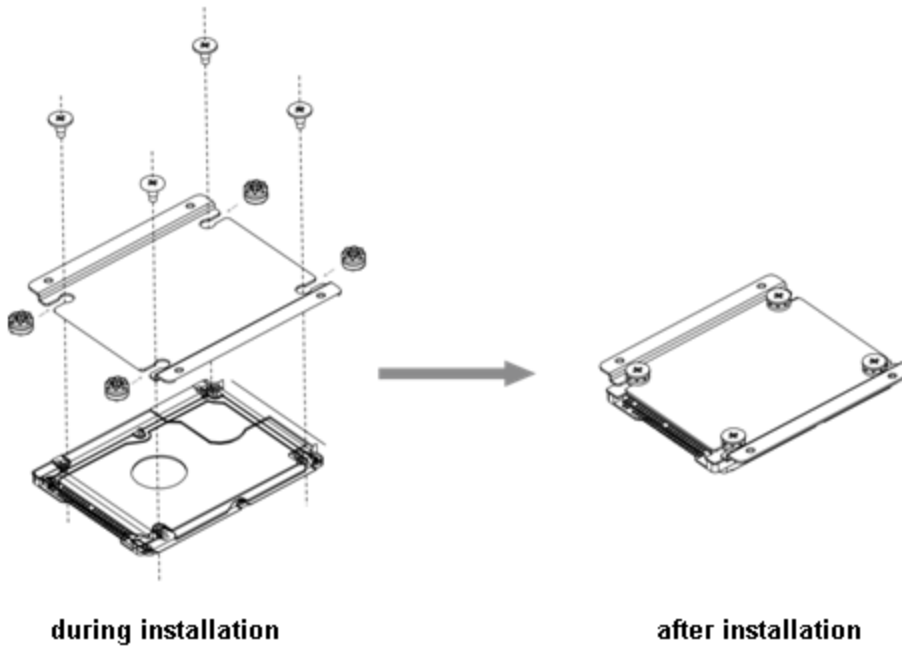

Figure 2-12
Step 2. Place anti-knock ring into the four slots of HDD bracket, and HDD screw hole faces hole on bracket, fasten anti-knock ring screw, see Figure 2-12.